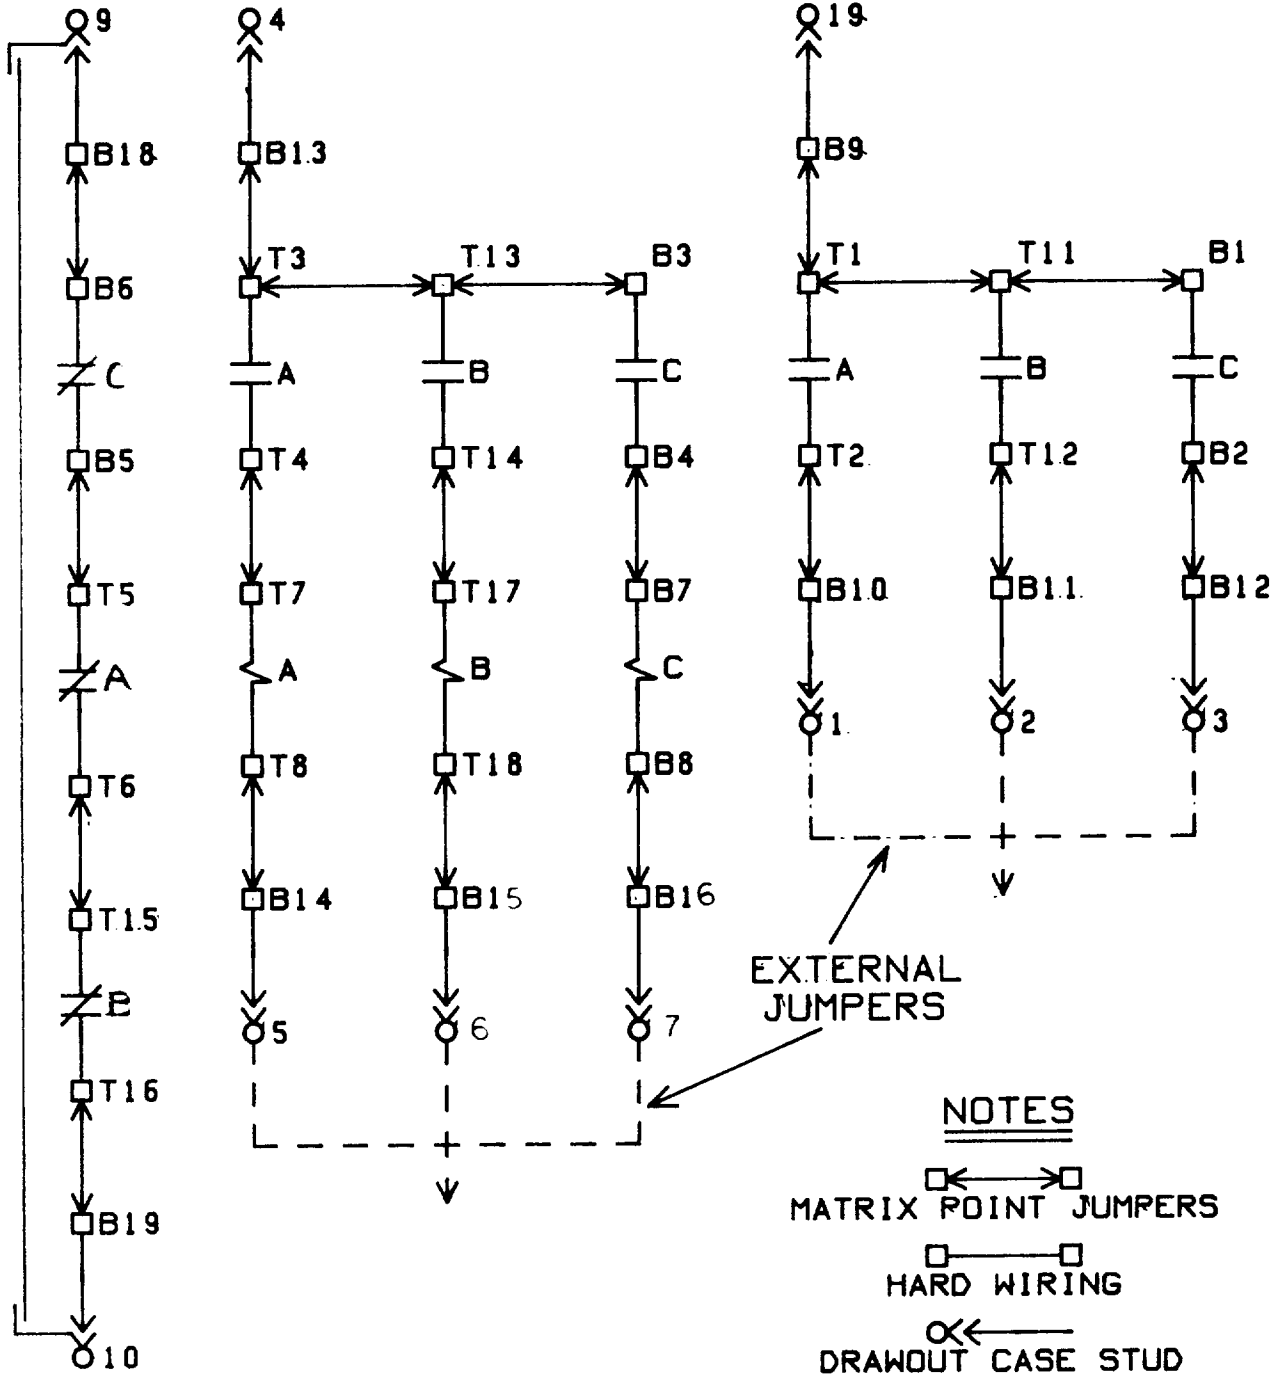

Figure 9 (0275A4320-2) Standard "OR" Contact Connections
3. Check that the taper-pin program blocks are properly programmed. (See Figures 9, 10, and 11.)
Figures 9, 10 and 11 show the standard and two alternate output contact configurations. They can be used on either over- or undervoltage mode. Set the jumpers on the SLV relay cards to the desired mode, overvoltage or undervoltage. In overvoltage mode, an overvoltage condition will energize the output relays (shown in the de-energized position). In the undervoltage mode it is an undervoltage condition that will energize the output relays.